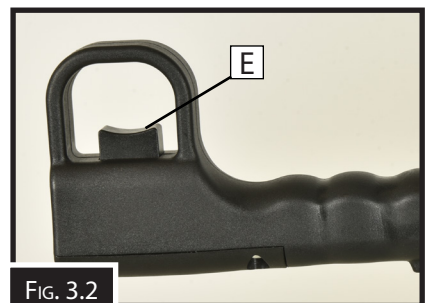

FIG. 3.2
- E. **Trigger Switch:** Turns the motor ON, rotating the blade and also activating the coolant pump. (Fig. 3.2)